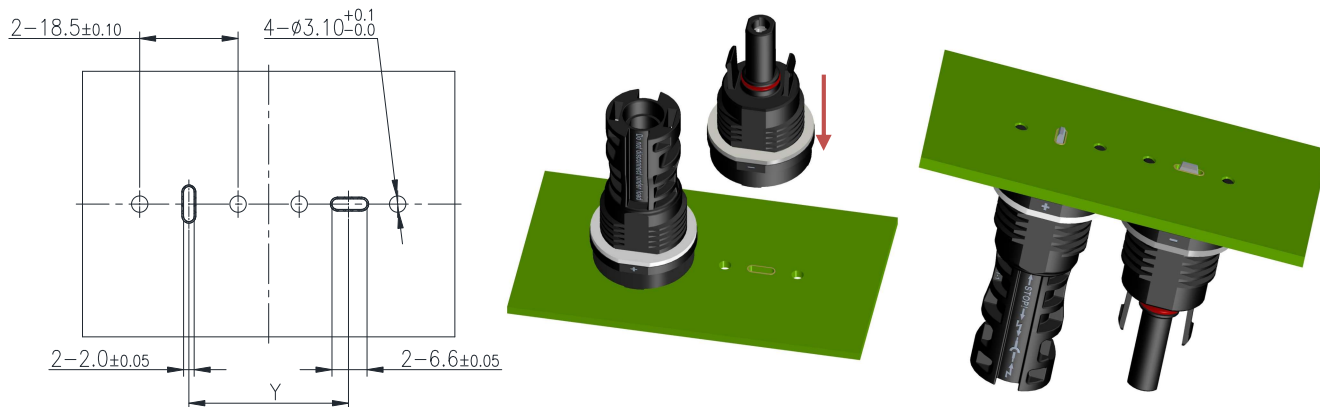

Figure 1
- ✧ PCB 钻孔的建议尺寸及安装如图 1，所有钻孔边缘的毛刺需要清除。建议无论水平或垂直结构，间距值（Y）至少要有 30mm，建议 PCB 板厚  $2.5 \pm 0.1\text{mm}$ ；由焊接工艺将插座固定在 PCB 板孔内。
Drill the panel wall. Recommended bore dimension see fig.1, all burrs must be removed from the edges of all bores. For both horizontal and vertical mounting, a spacing (Y) of at least 30mm is recommended; the socket is fixed in the holes of the PCB board by the welding process.